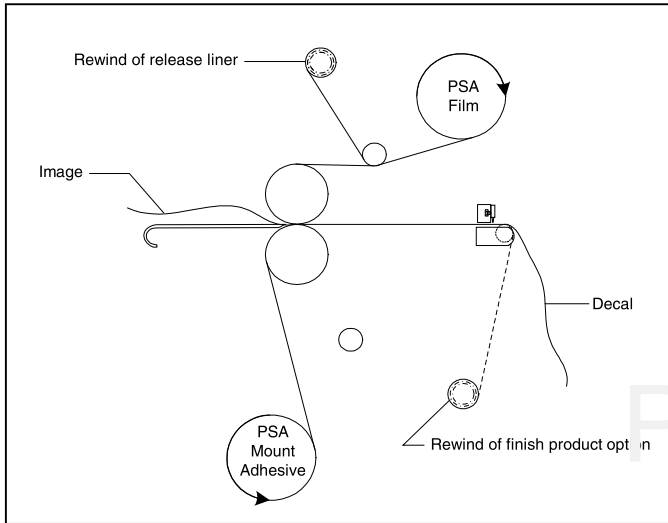

Fig. 32
#### TIPS FOR CREATING A DECAL (Figure 32)
1. Load the laminator as illustrated in Figure 32.